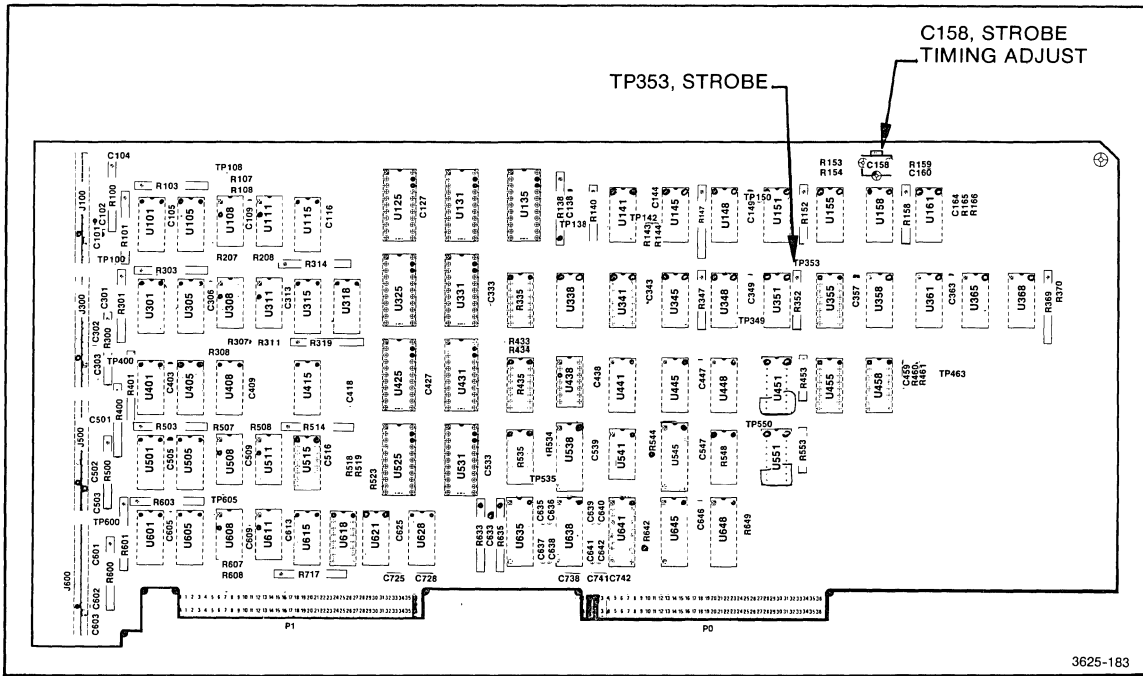

Figure 5-63. 91P32 test point and adjustment locations.
8. Attach the oscilloscope probe to test point TP353 on the 91P32 (see Figure 5-63). Attach the ground lead of the probe to any convenient ground point on the Pattern Generator Expander. Set the oscilloscope to trigger off a rising edge.